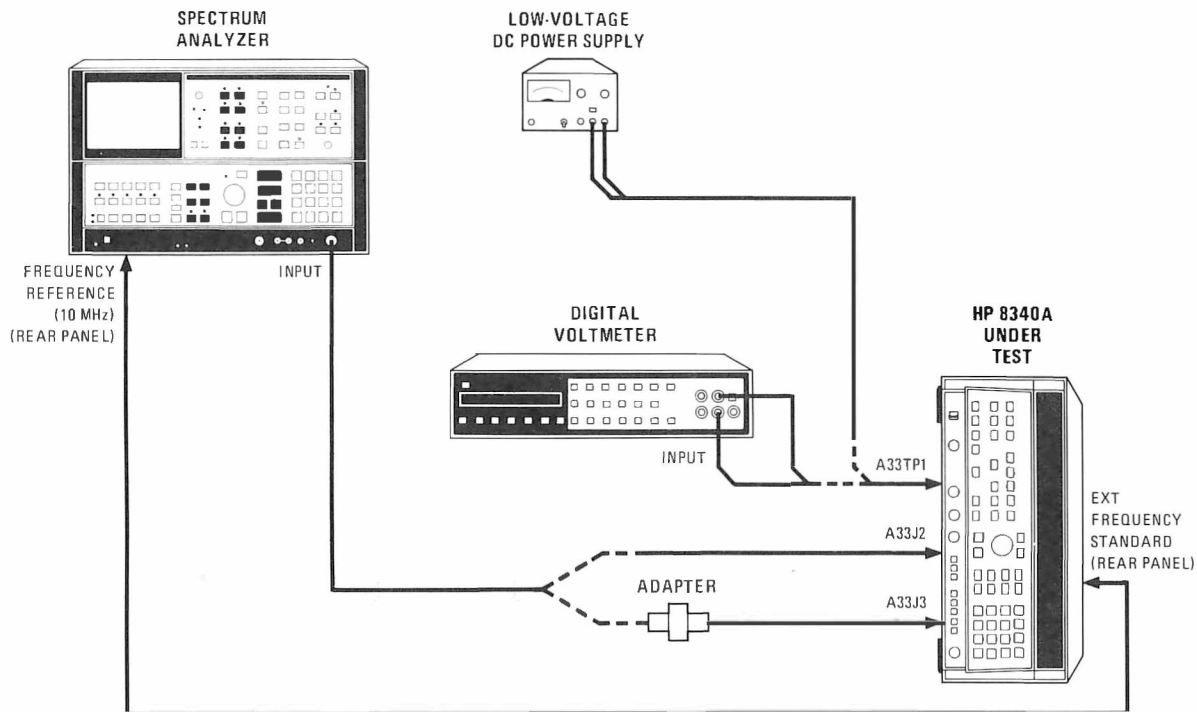

Figure 5-8. M/N Loop Adjustment Setup
1. Position the 8340A in the test position as shown in Figure 5-8 with bottom cover removed. Connect equipment as shown in Figure 5-8. On the 8340A rear panel, disconnect BNC cable connected between INT and EXT Frequency Standard connectors, set INT/EXT switch to EXT, then connect cable from EXT connector to Spectrum Analyzer Frequency Reference (10 MHz) rear-panel connector. Allow one-half hour warm up time.